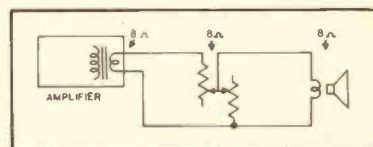

Fig. 10—13. L-type level control for attenuating volume at speaker.
Fig. 10—13, in which the two sections are tapered in such a way that the impedance presented to the speaker source remains relatively constant. Attenuation is accomplished by wasting power in the control, and its power rating should be as great as that of the amplifier. A simple heavy-duty potentiometer, with a resistance several times the nominal impedance of the speaker, may also be used, but at the expense of impedance mismatching.
Bass-treble combinations, poetically referred to as "woofer-tweeter" systems, require some sort of dividing network to separate the different portions of the frequency spectrum. The simplest of these networks is shown at (A) in Fig. 10—14. The tweeter is protected from damage by low-frequency signals, but treble signals are fed to both woofer and tweeter. Cone break-up and intermodulation in the woofer is thus discouraged only to the extent that part of the treble signal is by-passed through the tweeter.